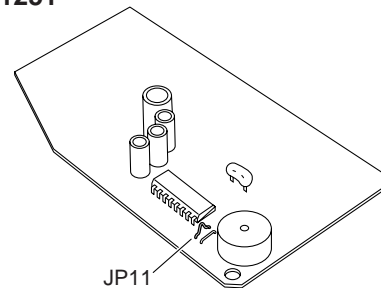

Fig. 9
- Unscrew the cover plate of the electrical component box. Remove the PCB. Locate and cut the jumper wire. (Figs. 9 and 10)